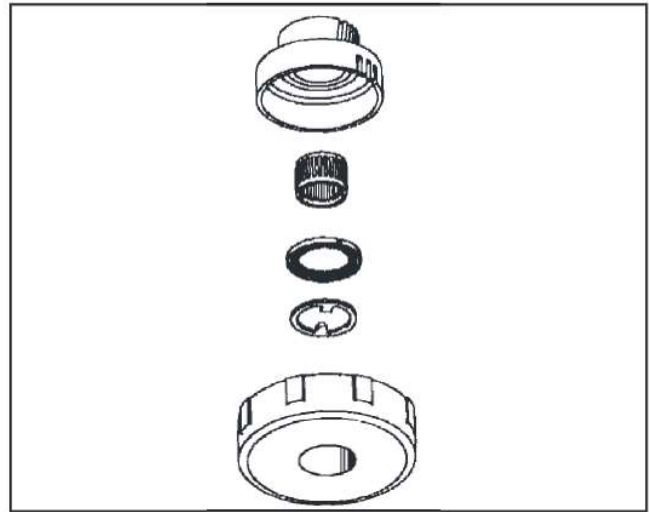

Figure 94
1. Remove the 1st drive gear from the 1st clutch drum assembly and inspect the teeth and bearing race for wear, chipping or pitting and replace as necessary (See Figure 94).
2. Remove the caged needle bearing from the 1st clutch drum assembly by carefully expanding the caged bearing from the open end separating it from the inner race (See Figure 94).
3. Remove the single sided bearing thrust washer (See Figure 94).
4. Remove the tang bearing race washer (See Figure 94). Inspect all bearings and races for wear.